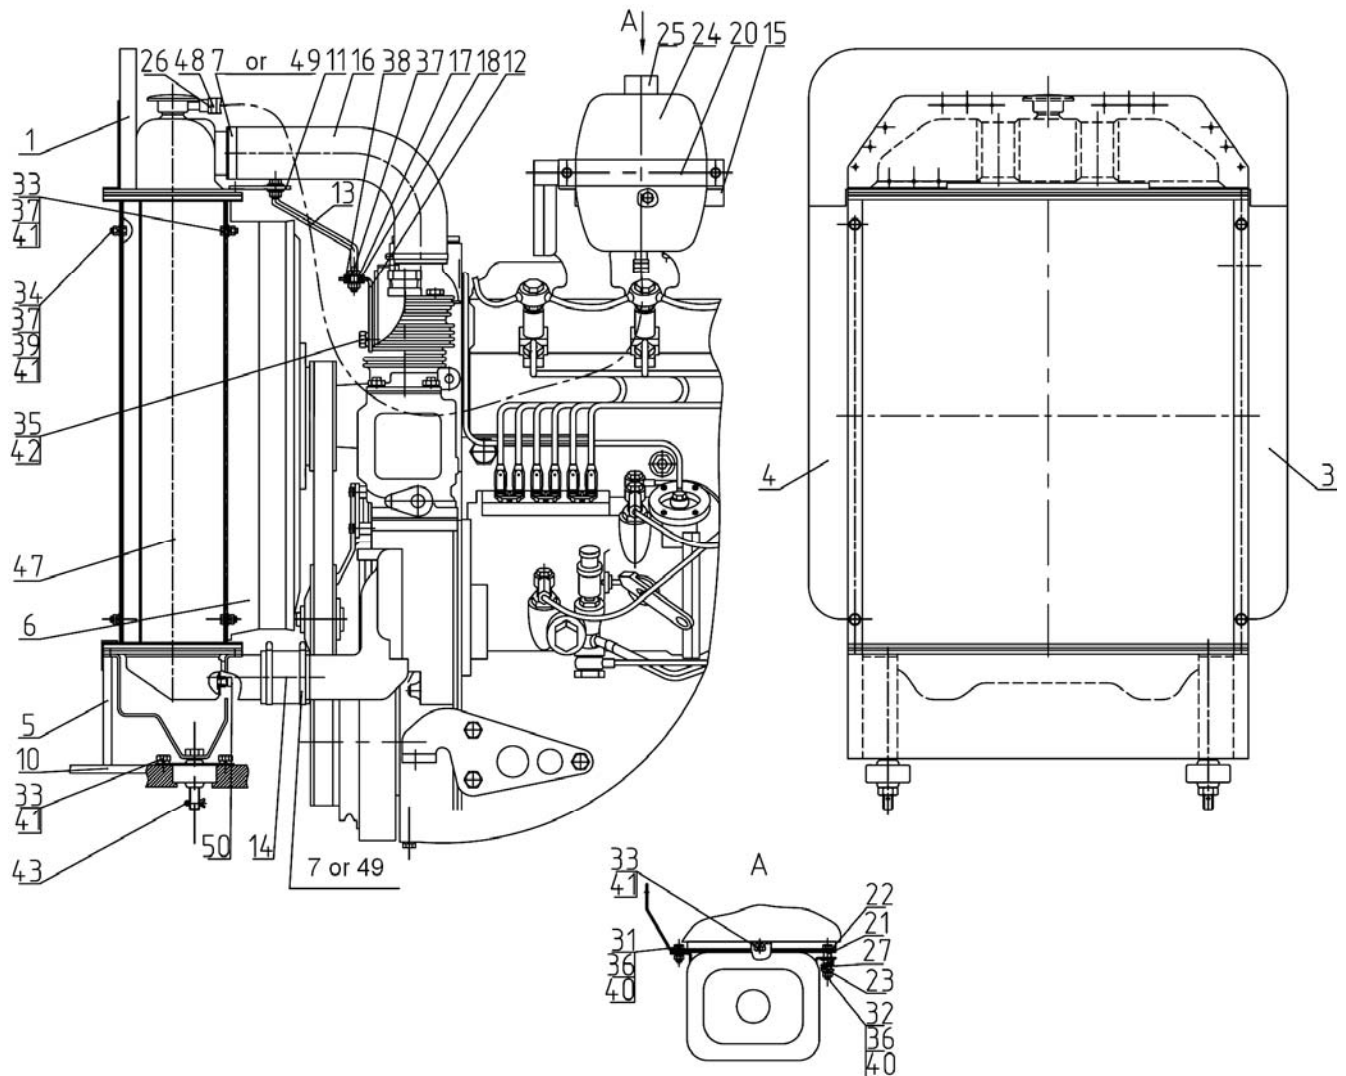

Figure 3.15 Cooling system
- b) untighten collars 7 (Figure 3.15) or 49, 48 and disconnect hoses 14, 16, 26;